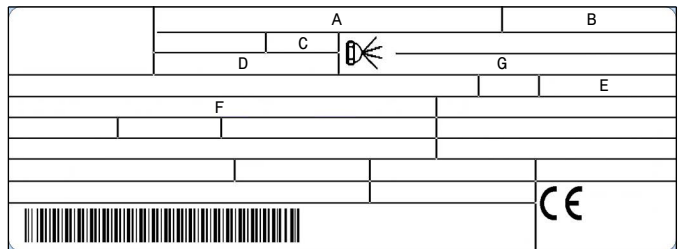

Fig. 9
- the model (see **A** in Fig. 9) and the type of burner (**B**);